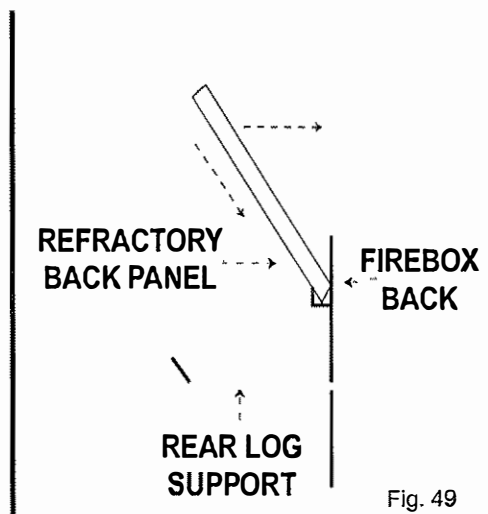

Fig. 49
4. Place back refractory - small brick edge down into support (See Fig. 49).